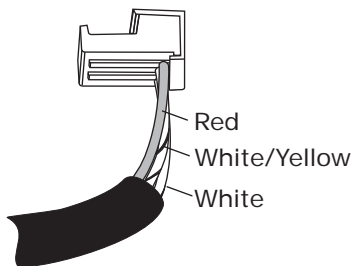

Figure 1
1. Remove the OEM fan switch actuator stud (See Figure 1 and photos, below). **NOTE: The fan switch actuator stud removal is required to allow clearance for the duct hoses. Failure to remove the stud will result in a punctured duct hose.**
2. Locate the control panel wiring harness, and plug the corresponding connector into the correct cable converter assembly as shown in Figure 1, below.